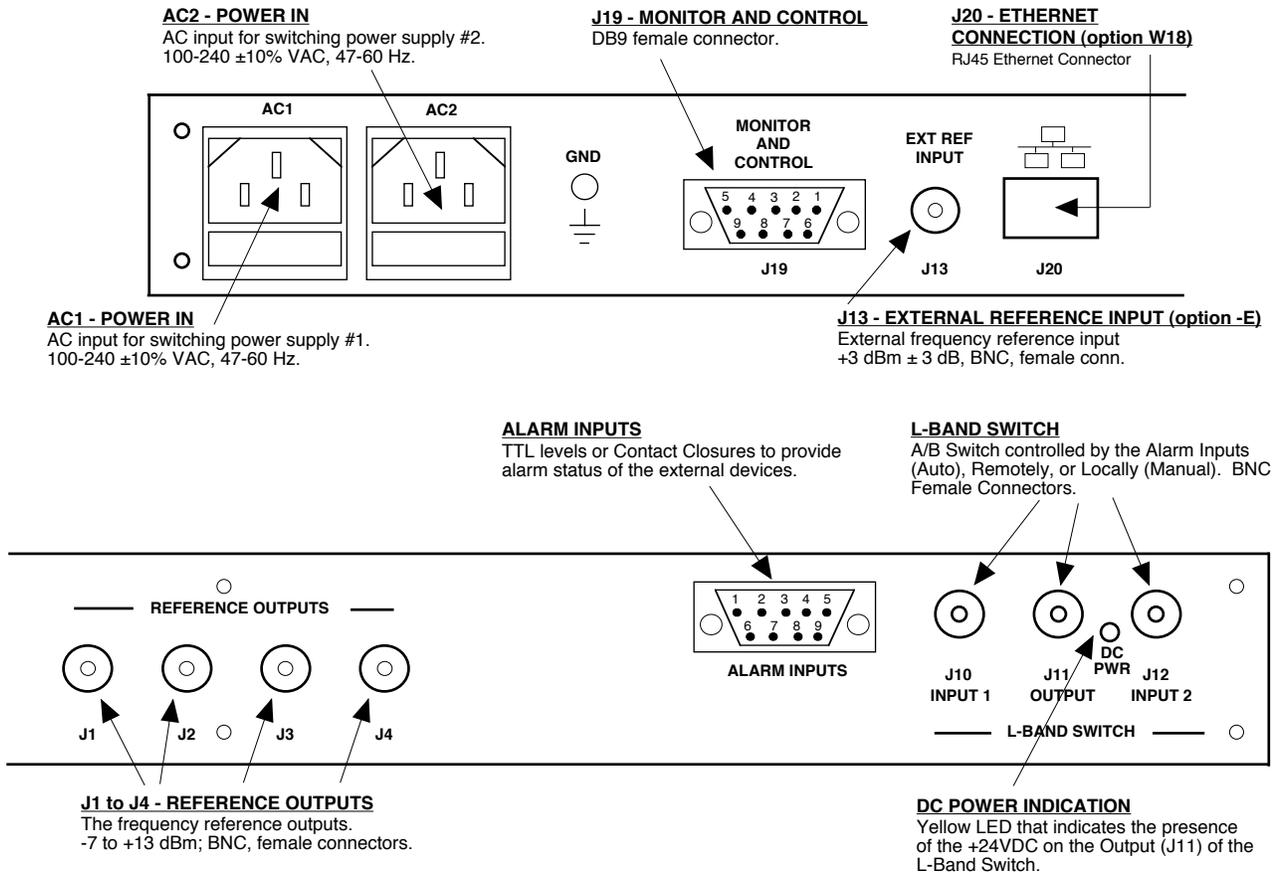

FIGURE 2.1 2099-1004-21L Rear Panel Input/Outputs
1. Connect 100-240 \pm 10% VAC, 47-63 Hz to AC1 and AC2 connectors (Figure 2.1).
3. Connect J1 thru J4 (REFERENCE OUTPUTS) to desired equipment (Figure 2.1).